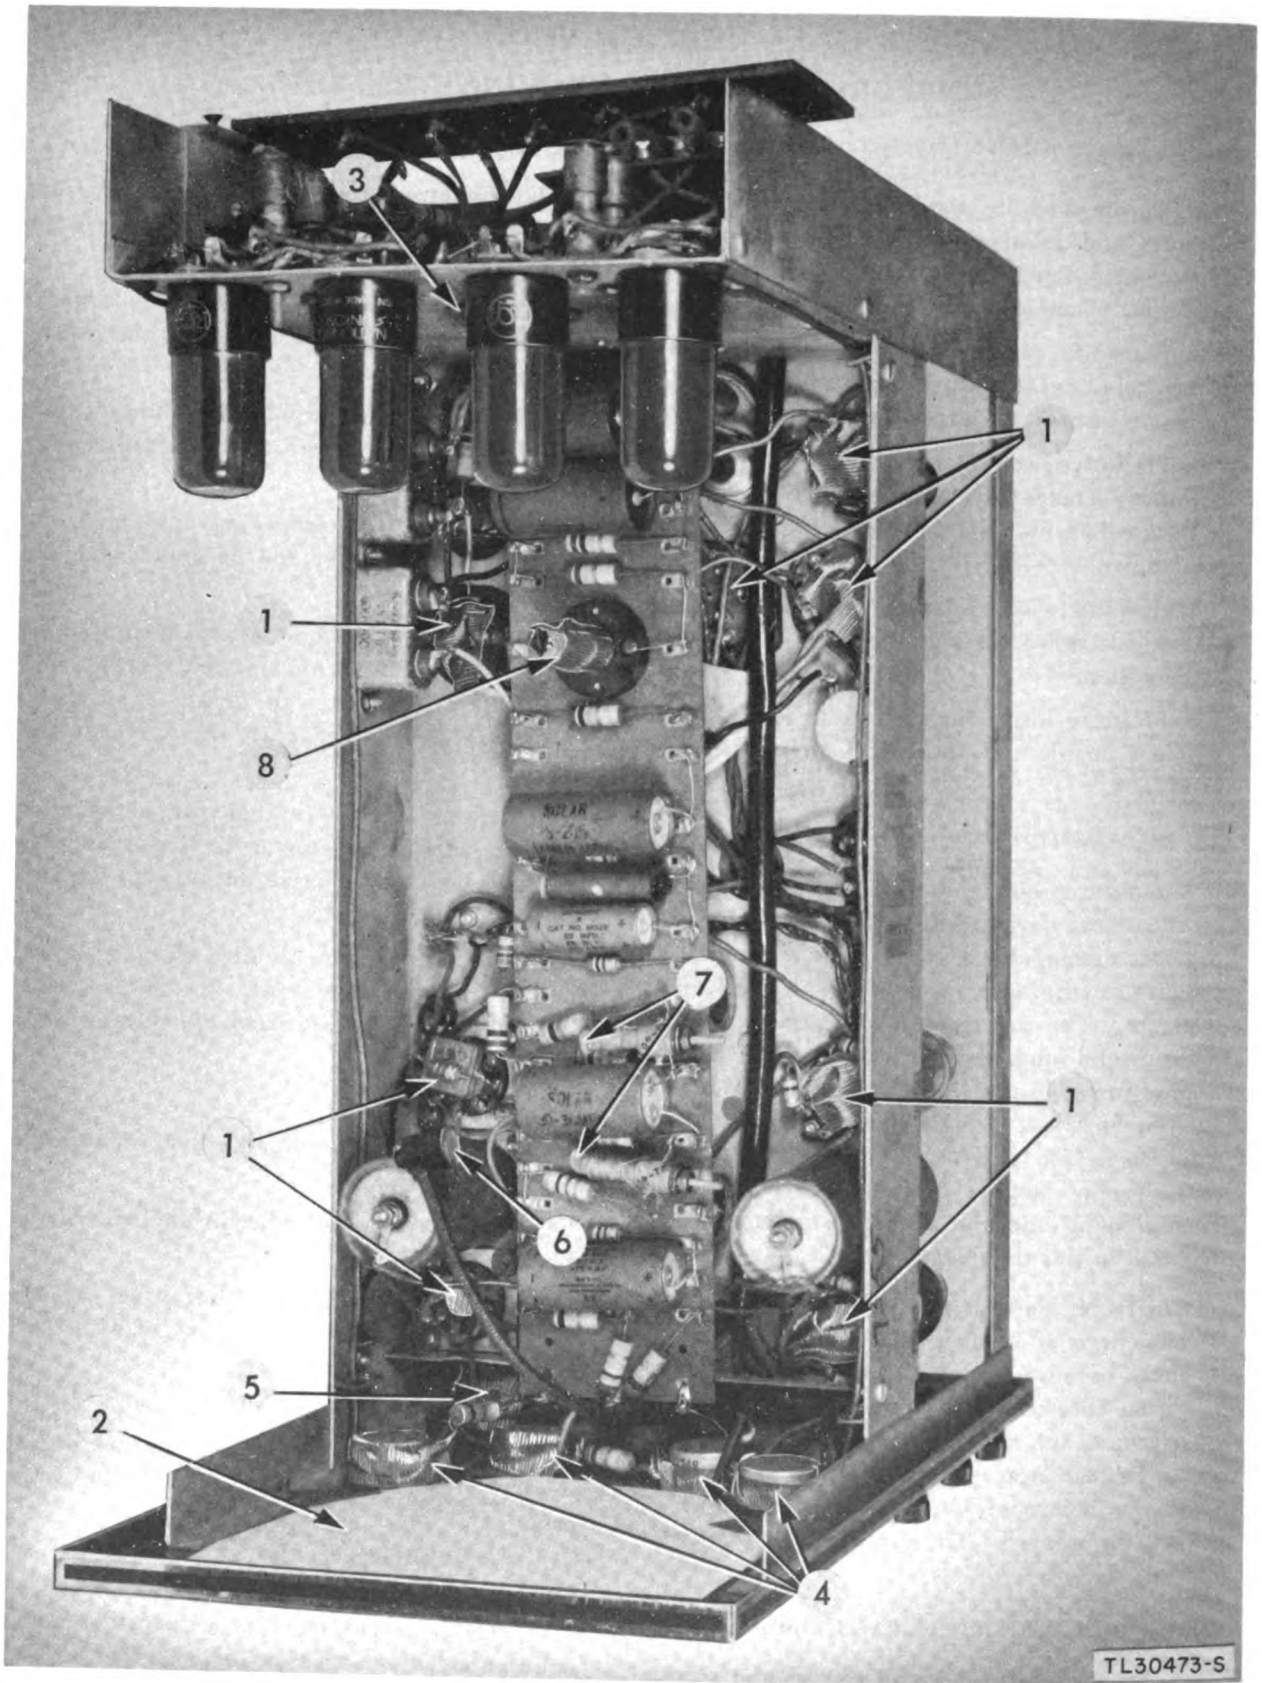

Figure 6. Top of chassis masked.
(1) Mask the following parts on the top side of the chassis (fig. 6).